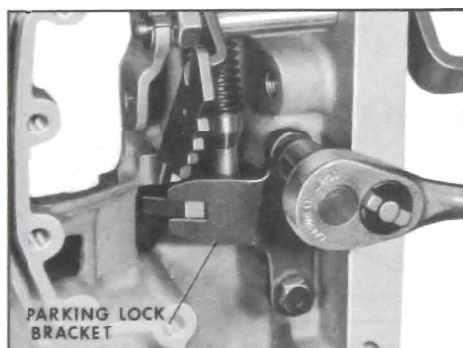

Figure 5-158
1. Remove two (2) parking lock bracket bolts with 1/2" socket. Remove parking lock bracket. See Figure 5-158.